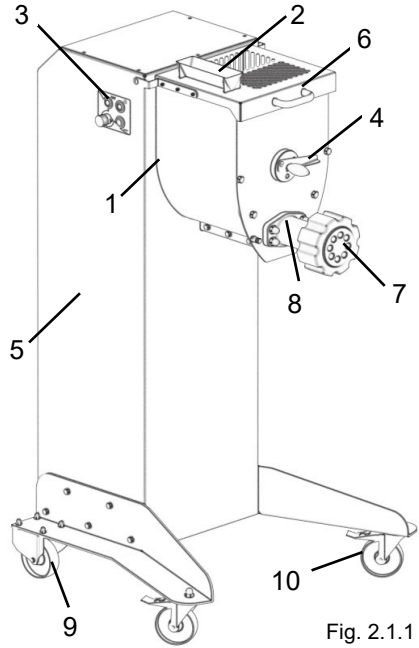
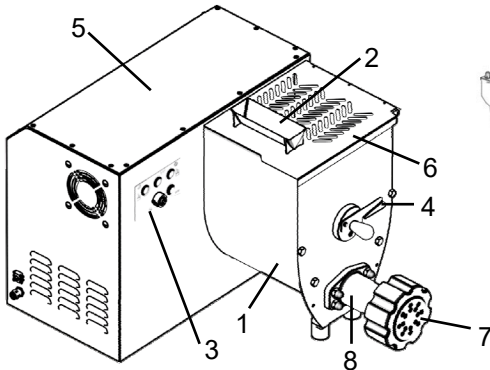

Fig. 2.1.1
Fig. 2.1.2
To facilitate the understanding of the manual, hereafter there are listed below and shown in fig. 2.1.1. and fig. 2.1.2 the main parts of the machine.
2. Close the top cover and insert the funnel "4" (Figure 2.1.1) on the feeder cap